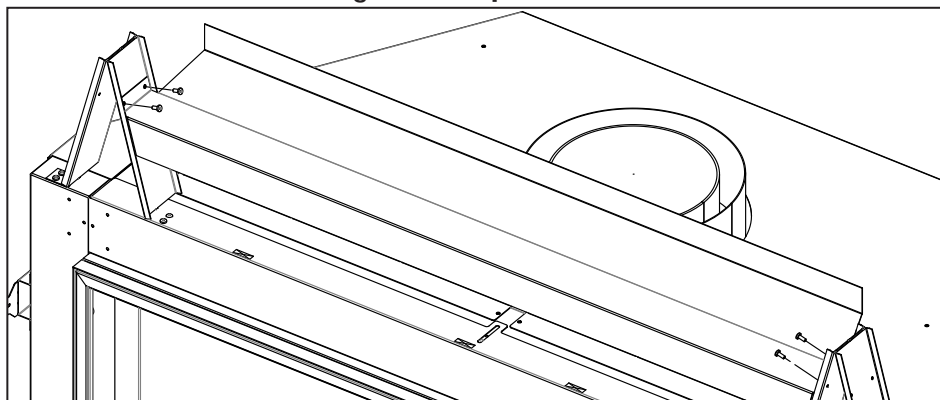

Figure 30: Top Standoff Support Install
3. Install heat shield support using four (4) supplied T-20 screws (see Figure 30).